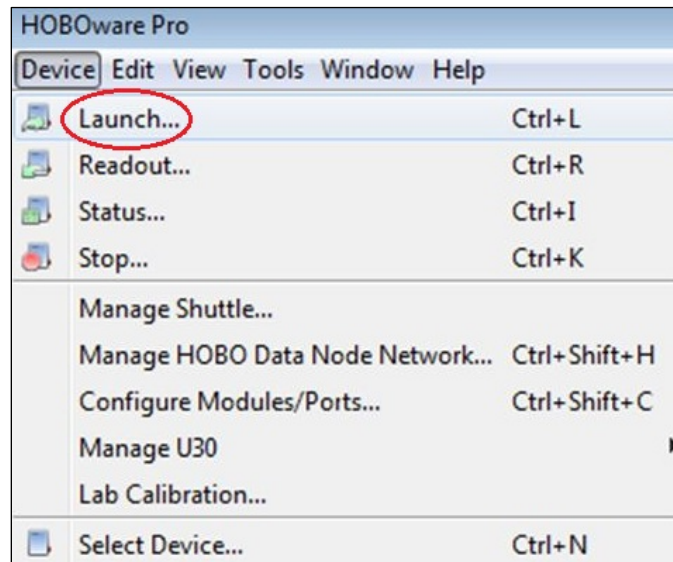

Figure B 3. Select Device/Launch.
4. Under the “Device” menu, select “Launch” (Figure B 3).